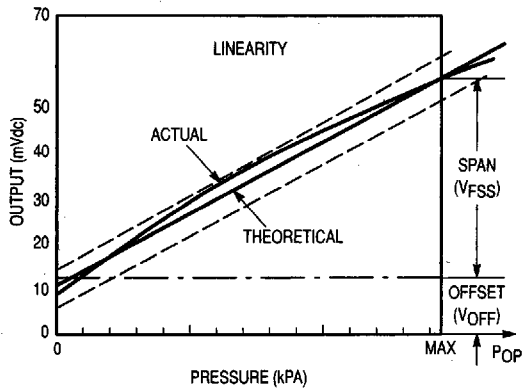

Figure 3. Linearity Specification Comparison
Linearity refers to how well a transducer's output follows the equation:  $V_{out} = V_{off} + \text{sensitivity} \times P$  over the operating pressure range (Figure 3). There are two basic methods for calculating nonlinearity: (1) end point straight line fit or (2) a least squares best line fit. While a least squares fit gives the "best case" linearity error (lower numerical value), the calculations required are burdensome.